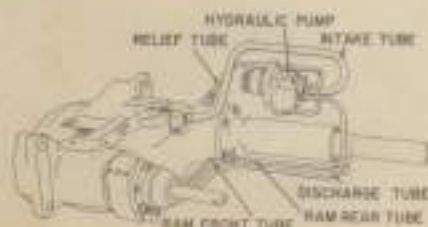

Fig. 10 — Drawing showing the positions of the various power steering tubes, on D-14 and D-15 non-diesel tractors.
21. A pressure test of the hydraulic circuit will disclose whether the pump, relief valve or some other unit in the system is malfunctioning. To make such a test, proceed as follows: Connect a pressure test gage in series with the pump discharge (pressure) tube (refer to Figs 10, 11, 12, 13 and 12A), run engine at low idle speed until oil is warmed, then turn the steering wheel to either the extreme right or left position. The steering wheel should be held in the extreme position only long enough to observe the gage reading. Pump may be seriously damaged if steering wheel is held in this extreme position for an excessive length of time. Correct engine speed and power steering pressure are as follows: